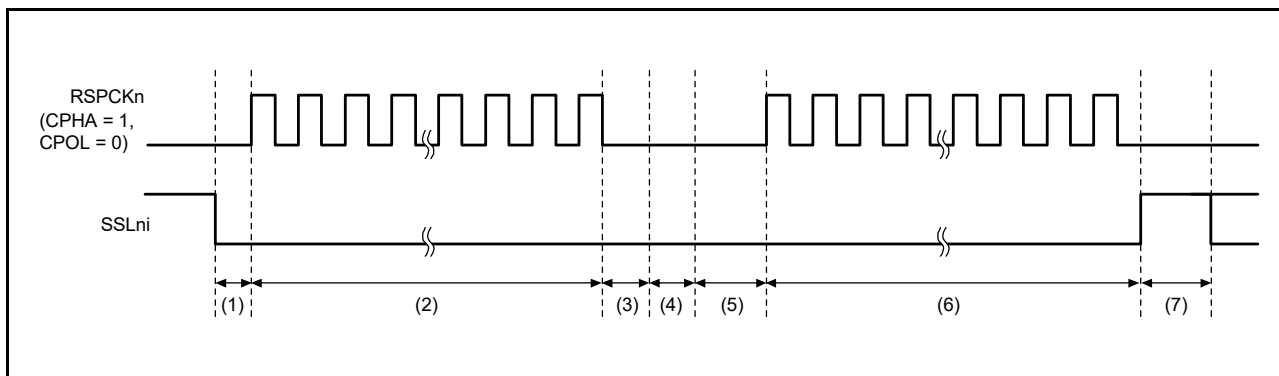

Figure 32.42 Example of burst transfer operation using the SSLKP bit (SPI0)
Figure 32.42 shows an example of an SSLni signal operation for a burst transfer that is implemented using the SPCMD0 and SPCMD1 register settings. The following section explains the SPI operations (1) to (7) as shown in Figure 32.42.
If the SSLni signal output settings in the SPCMDm register, where 1 is assigned to the SSLKP bit, are different from the SSLni signal output settings in the SPCMDm register to be used in the next transfer, the SPI switches the SSLni signal status to SSLni signal assertion as shown in (5) in Figure 32.42. This corresponds to the command for the next transfer.